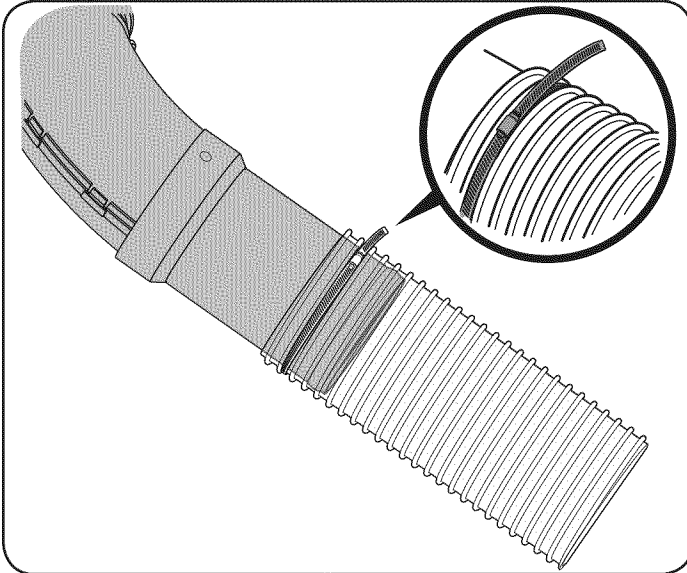

Figure 17
5. Install the upper chute and extension tube into the flexible hose extension as shown in Figure 17, positioning it over the wide adhesive rubber strip previously installed on the extension tube.
NOTE: Orientate the hose clamp so that it aligns over the wide adhesive rubber strip previously installed on the chute extension tube, and the excess from the clamp points inward and down with the tightening screw facing outward. See the inset of Figure 17.